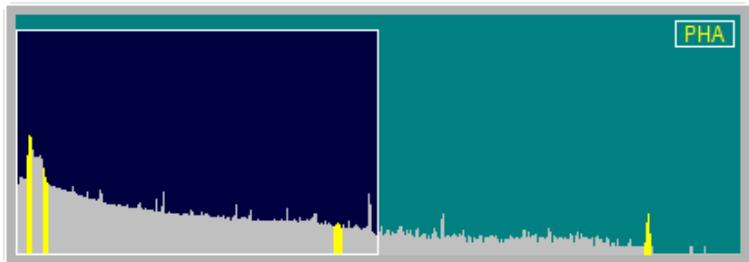

Figure 44. Full Spectrum View with Expanded Spectrum View Area Highlighted.
- 7) The **Expanded Spectrum View** shows all or part of the full histogram; this allows you to zoom in on a particular part of the spectrum and see it in more detail. You can change the expanded view vertical and horizontal scaling, and perform a number of analytical operations such as peak information, marking ROIs, or calibrating the spectrum. This window contains a vertical line called a *marker* that highlights a particular position in the spectrum. Information about that position is displayed on the Marker Information Line (see item 10 below).
- 8) The **Full Spectrum View** shows the full histogram from the file or the Detector memory. Note the indicator in the upper-right corner, which indicates the unit's current data collection mode, e.g., pulse-height analysis mode (PHA), list mode (LIST), or one of the three zero-dead-time modes (ZDT, LTC, or ERR; see Fig. 76, page 76). The vertical scale is always logarithmic, and the window can be moved and resized (see Section 4.4.4). The Full Spectrum View contains a rectangular window that highlights the portion of spectrum now displayed in the Expanded Spectrum View (see Fig. 44). To quickly move to a different part of the spectrum, just click on that area in the Full Spectrum View and the expanded display updates immediately at the new position.